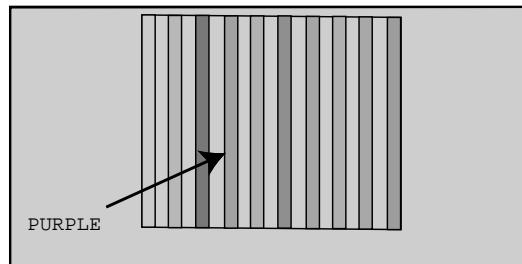

Figure 59. Rainbow Pattern
1. Apply a Black levels Pattern (See Figure 59)